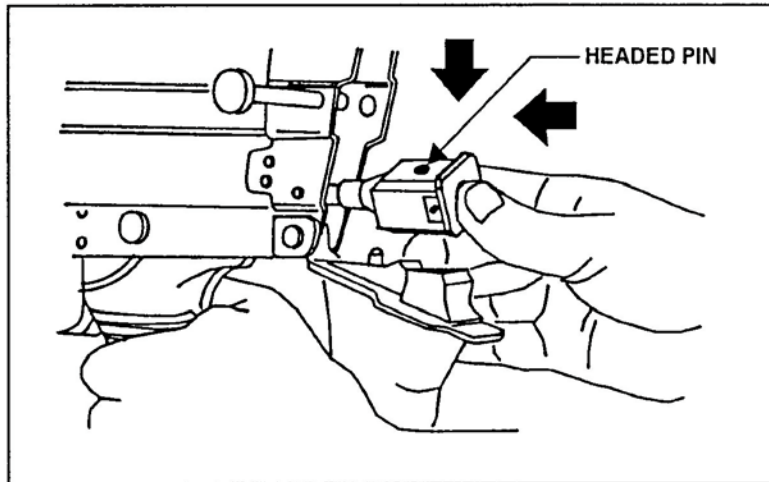

Figure 33. Replacement of the return rod and transfer mechanism assembly.
- (2) Ensure that the headed end of the vertical pin in the transfer mechanism assembly points upward (on top of the transfer mechanism assembly) (Figure 33).